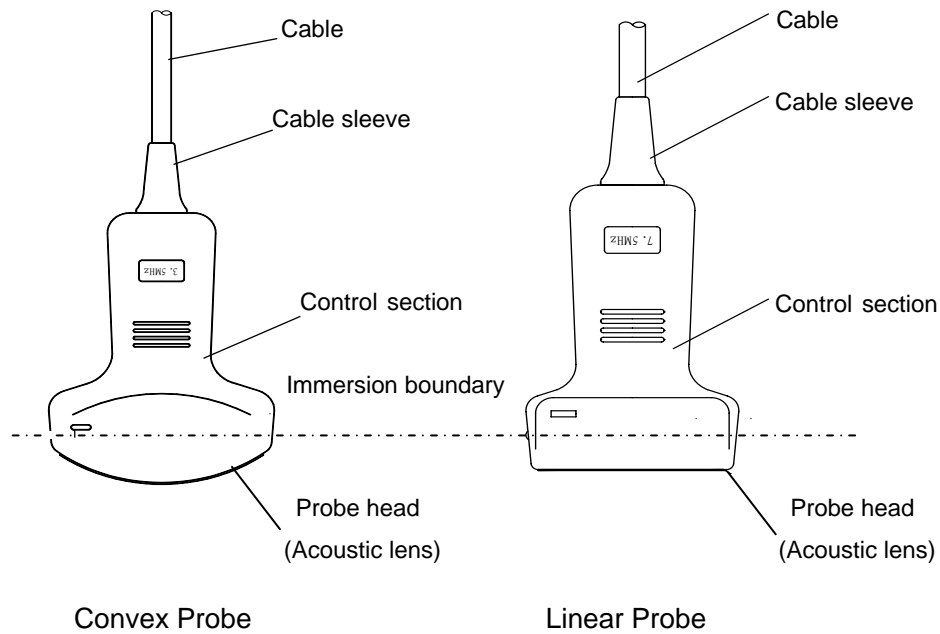

Fig. 3-2 Probe Structure
The structure of the configurable convex and linear probe is shown in Fig. 3-2.
- The probe can not be immersed into water over the immersion boundary as shown in Fig.3-2. The waterproof type of the probe is IPX7. If the probe is immersed in water carelessly, it may cause failure or potential problem; in this case, please contact our service personnel immediately;